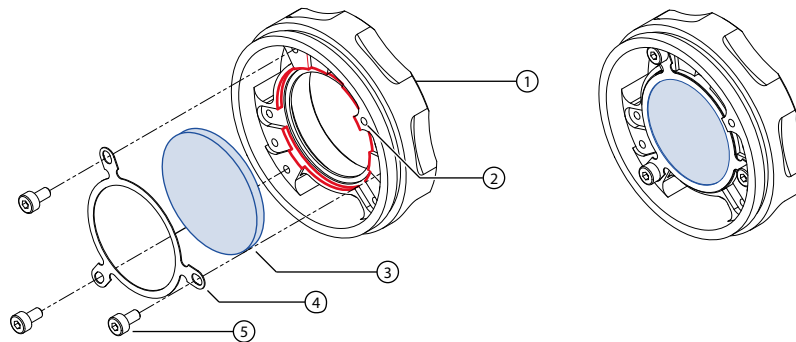

Figure 72: Changing the filter in the C-Mount adapter
To change the filter of the C-Mount lens adapter, follow the instructions outlined in Figure 72.
- See Figure 72 on page 261 (blue = filter, red = filter recess).